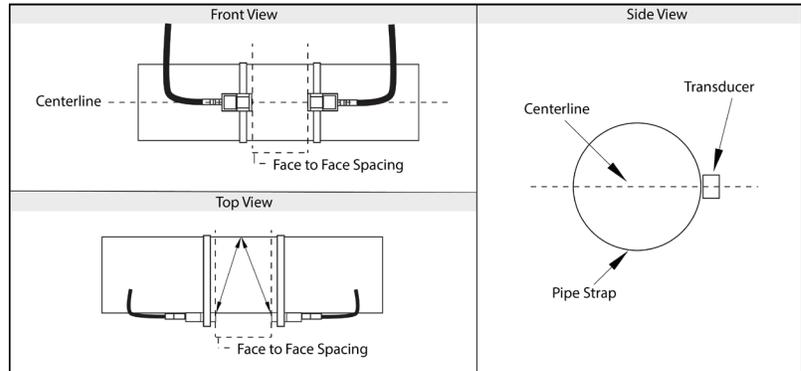

Figure 4. Transducer Spacing
Press the  key to move to the “Transducer Spacing” and setup menu. Because your transducers are not mounted to the pipe at the correct spacing yet, the waveform will just look like random noise shown below. See the suggested spacing below; in this case 2.48 inches. Make a mark on your pipe at suggested transducer spacing. (See Figure 4). You can also use the MeterFit™ app on your Smart Interface Portal (SIP) software. Download software at sierrainstruments.com/downloads/207i.
1. Make contact on the pipe at the pipes centerline. See “Transducer Space” in Figure 4.